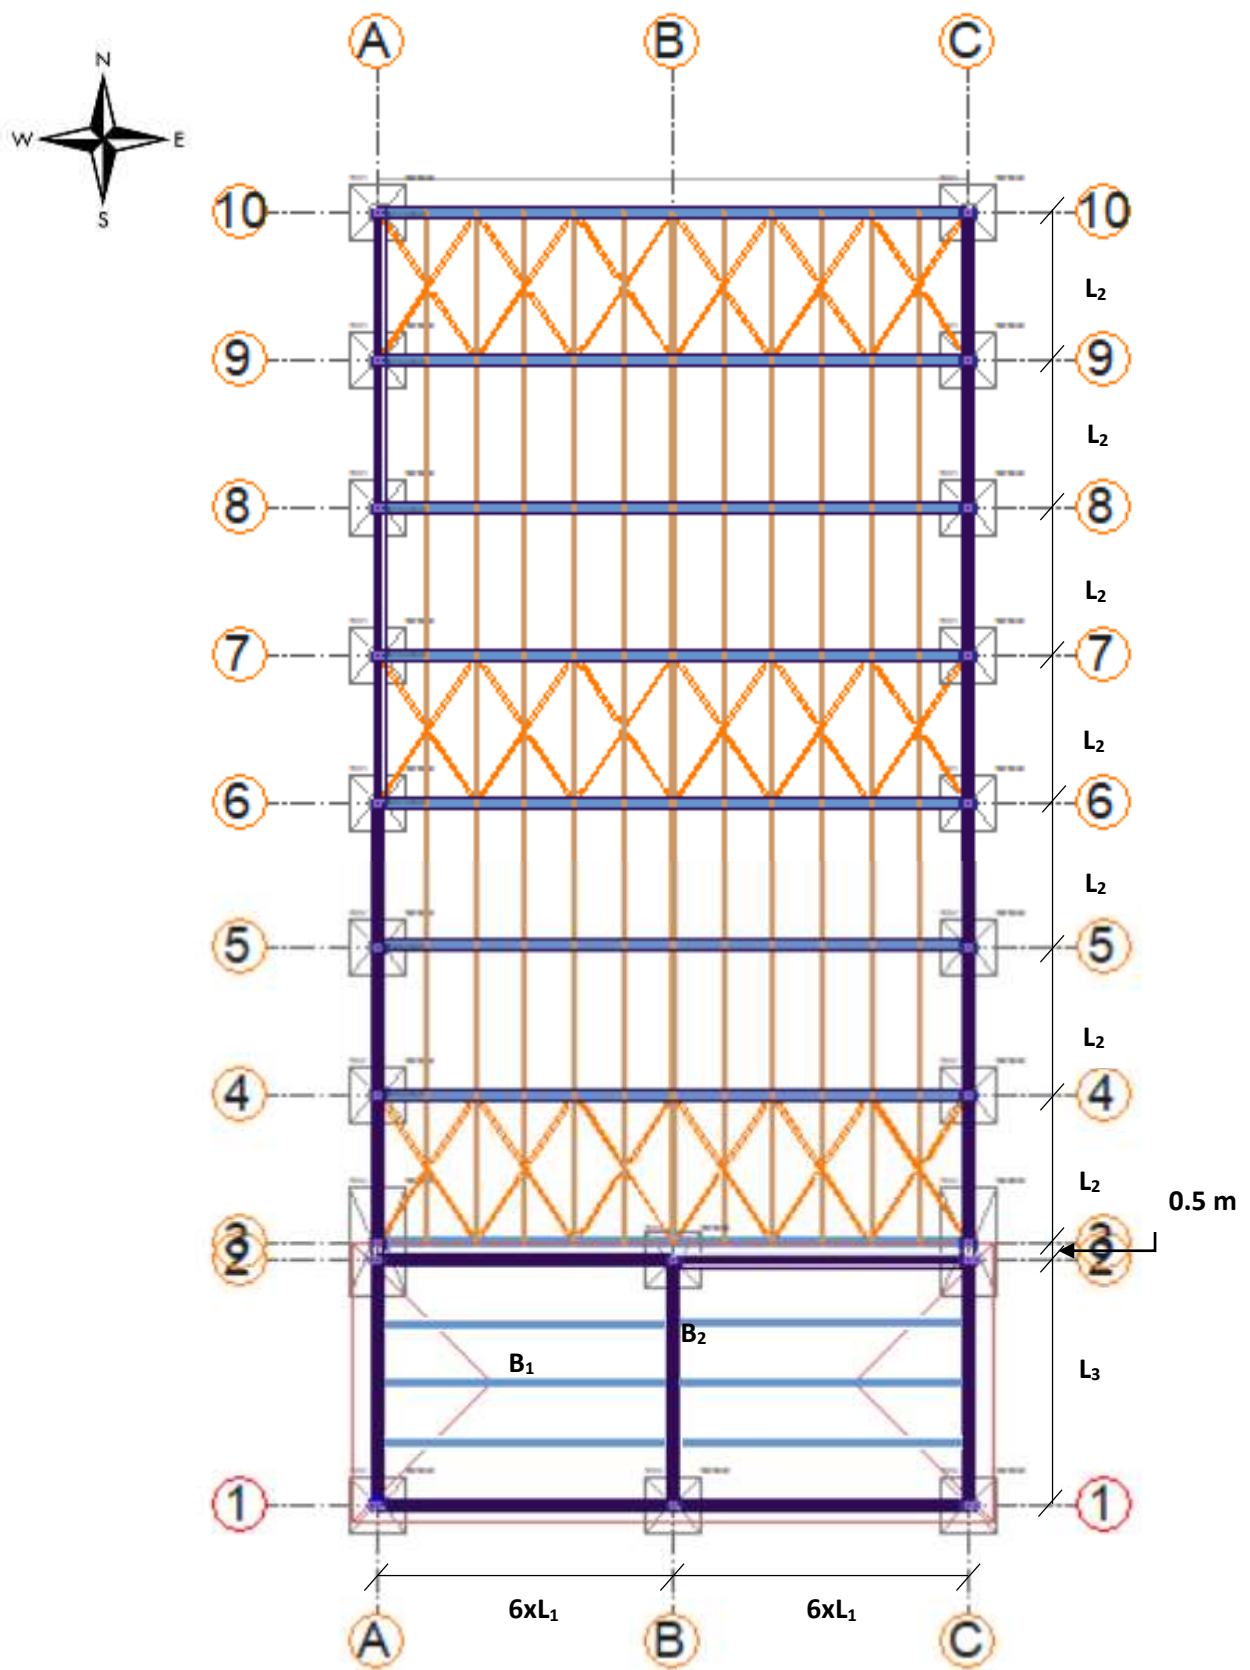
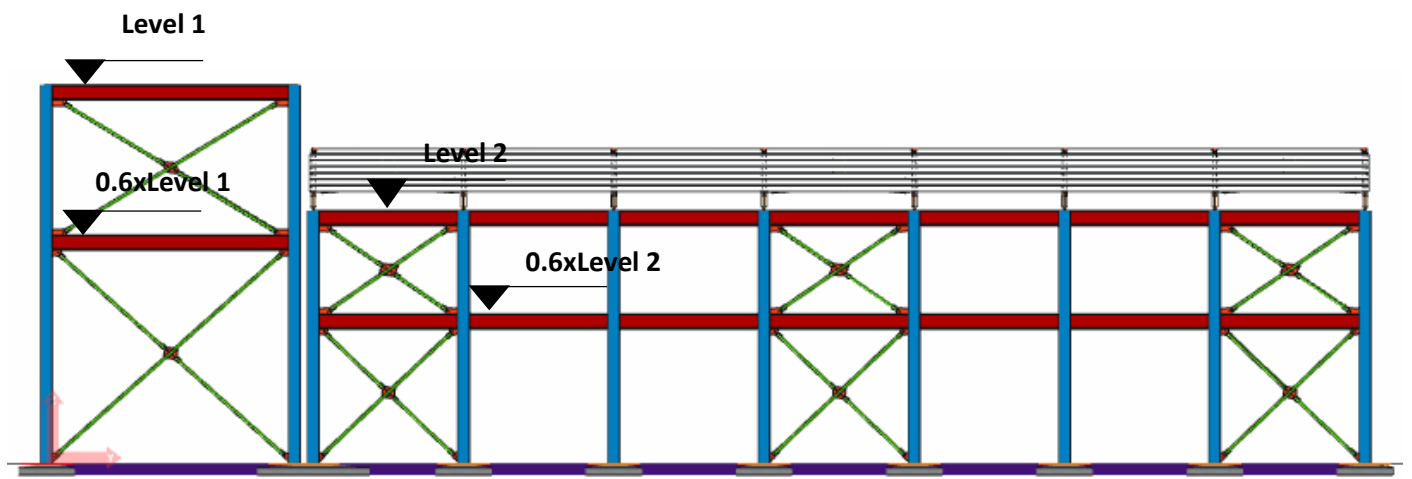
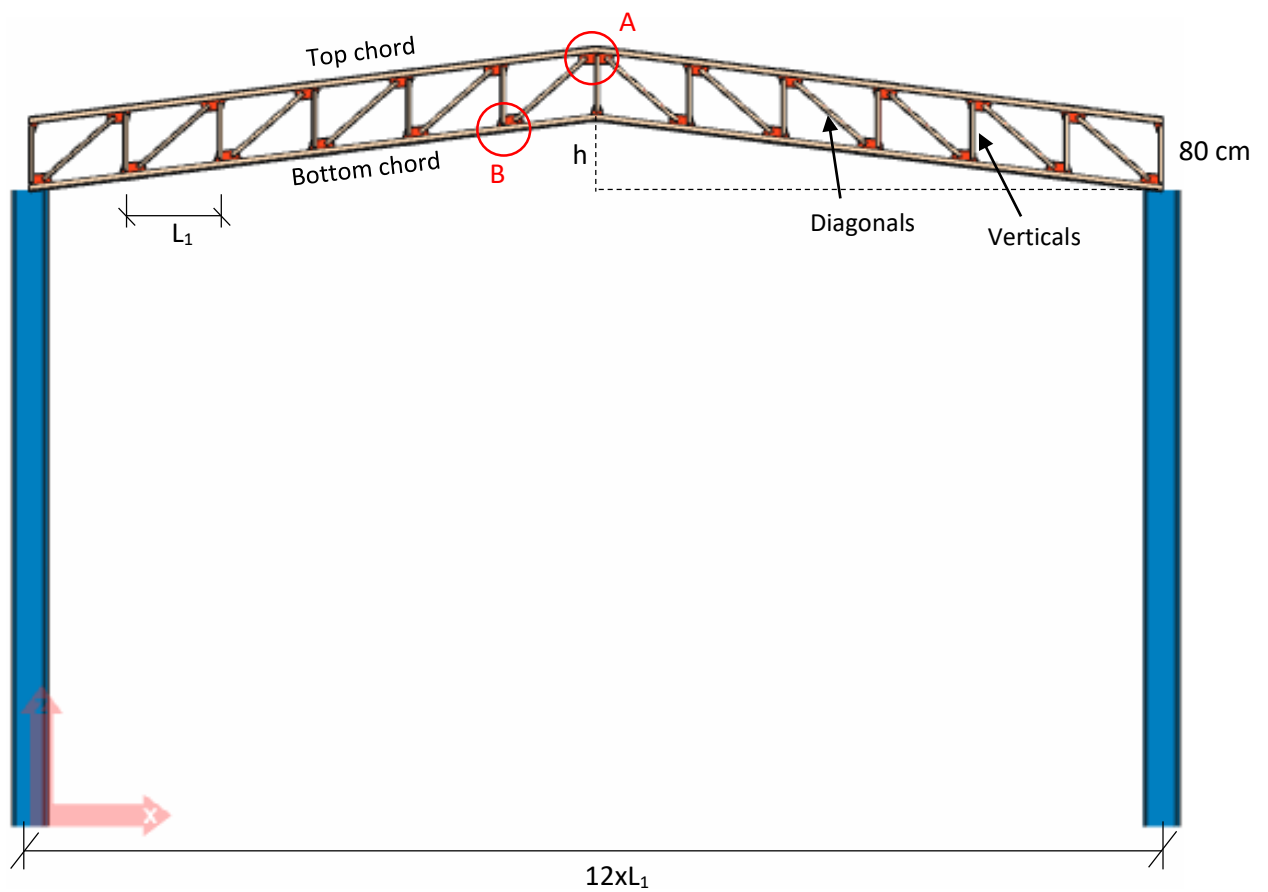

Fig. 1. Plan view layout
Fig. 2. Elevation view (East)
Fig. 3. Elevation view (North)
- Details of the buildings under consideration are given on the following pages. Fig. 1 shows the typical floor and roof plan layout. Fig. 2 and Fig. 3 depict east and north elevation of the buildings, respectively. Geometrical and technical values for design are listed in **Table 1** for each student.
8. Design the **welded** connections in circles **A** and **B** shown in Fig. 3.